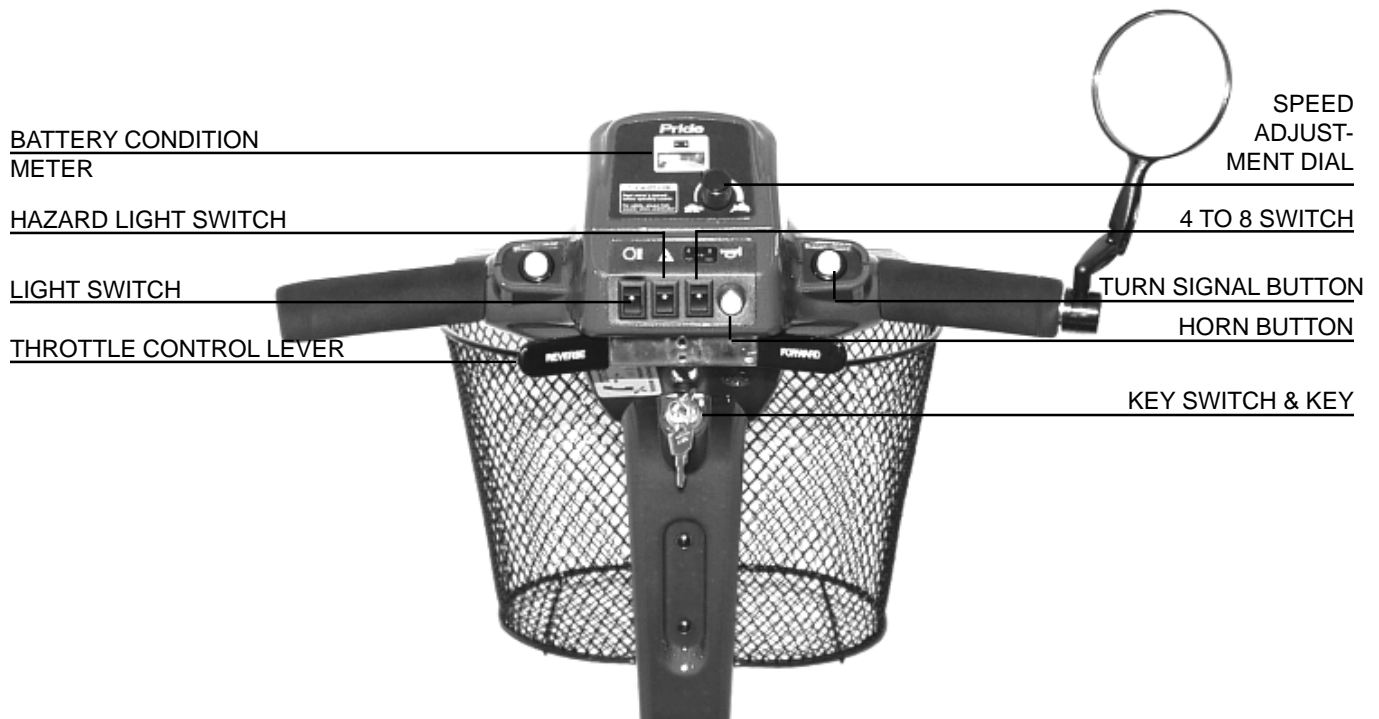

Figure 6. Control Console Assembly
The control console assembly houses all the controls you need to drive your Boxster including the key switch, the speed adjustment dial, the throttle control lever, the battery condition meter, the horn button, turn signal buttons, the 4 to 8 switch, and the light switch. See figure 6.
7. You can, if you wish, periodically check the battery condition meter by inserting the key in the key switch, examining the battery condition meter, and then removing the key. See figure 6. As the batteries charge, the battery condition meter approaches the 100% reading.